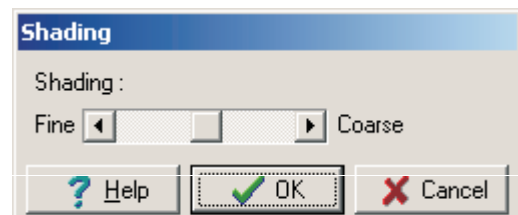

Figure 3
- 3 You will now see a Shading Parameters Dialogue Box, see Figure 3, this will allow you to alter the level of shading. Holding the Left Mouse Button Down, move the slider to the left to make the Shading appear finer, to the right to make the Shading appear coarser. Now Left Click On the area of your selected item, you wish to shade. The results are shown in Figure 4 using the midway setting and in Figure 5 using a fine setting.